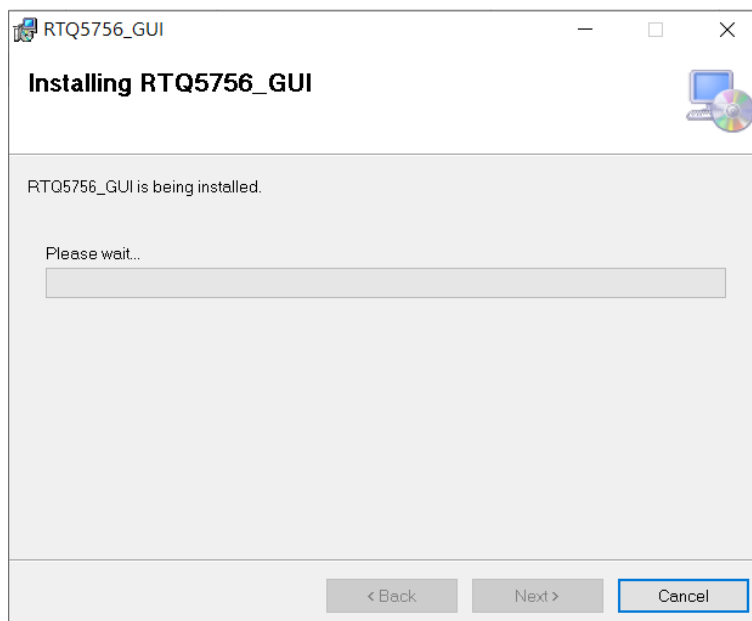

Figure 14. RTQ5756\_GUI Installation Step 14
Step 14: During the installation process, set the installation path as needed, then continue with the installation until the software is completely installed. Once installation is complete, the RTQ5756\_GUI can be used. Figure 14 shows the progress bar of the installation process.